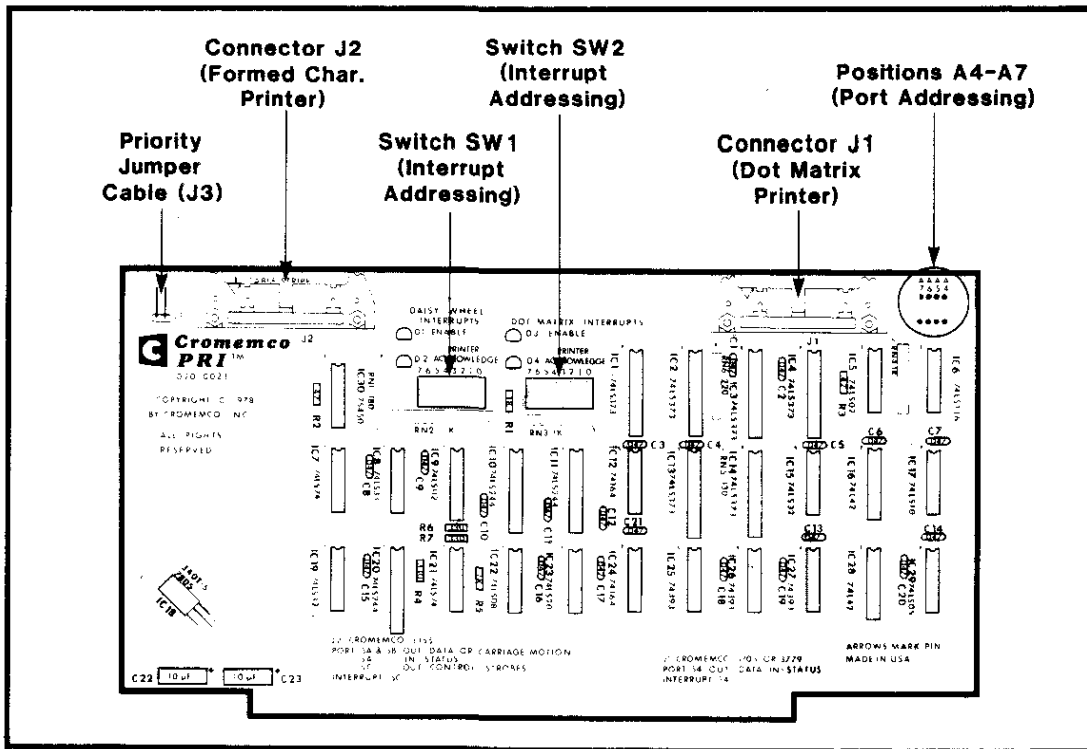

Figure C-1: THE PRI PRINTER INTERFACE BOARD
2. Turn off all the switches on the PRI board (see Figure C-1).
3. Following the instructions in Appendix B, insert the PRI board in the card cage (steps 1-4), install the DB-25 connector on the back of the system and connect the ribbon cable to the PRI board (step 5 in Appendix B). If you are using a dot matrix printer (Cromemco Models 3703 or 3715), connect the ribbon cable to J1 on the PRI board. If you are using a fully formed character printer (Cromemco Models 3355A or 3355B), connect the ribbon cable to J2 on the PRI board (see Figure C-1).
4. If the PRI board is installed in a Cromemco Cromix system, the existing priority interrupt jumper cable should be used. The PRI board should be located in the interrupt priority chain after the last TU-ART in the bus. The priority jumper cable for the priority out connector on the last TU-ART should be connected to IN J3 on the PRI board (refer to Figure C-1). See Appendix F for more information about the priority interrupt cable.